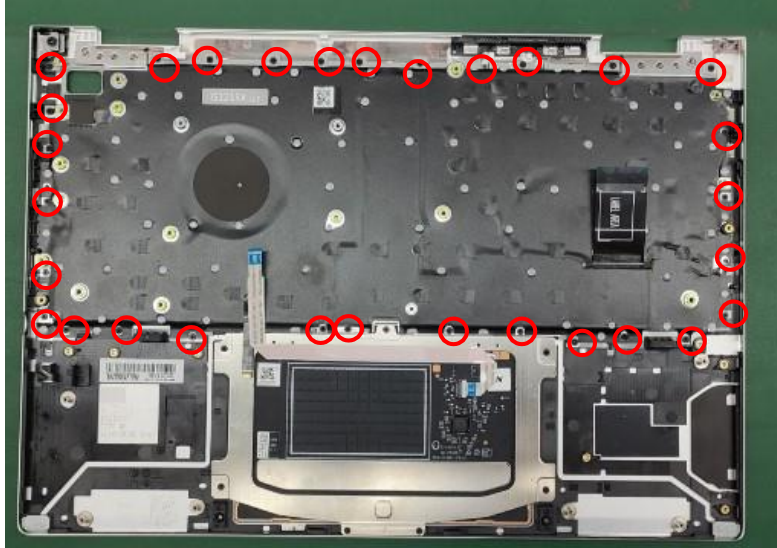

Figure 1
1. Remove screws M1.6*L1.8 black (6052B0508901---30 pieces) and take off KB (Figure 1)